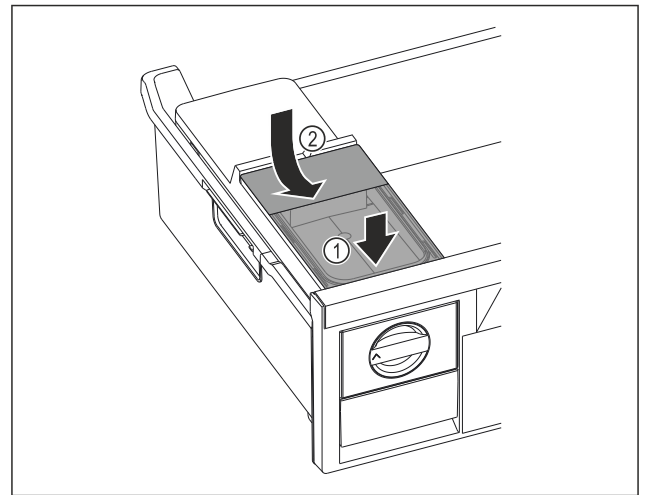

Fig. 165
- ▶ Position the water tank at the front. Fig. 165 (1)
- ▶ Lower the water tank at the rear. Fig. 165 (2)